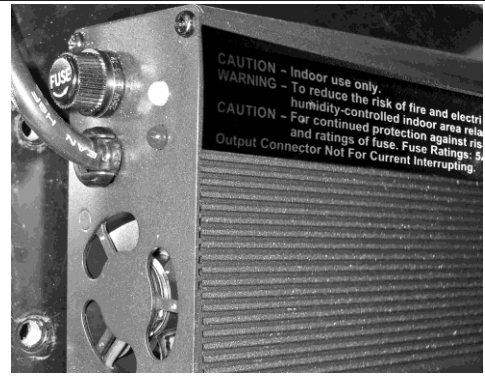

Figure 9. Fuse location on the battery charger.
2. Locate the fuse on the side of the charger (Figure 9).